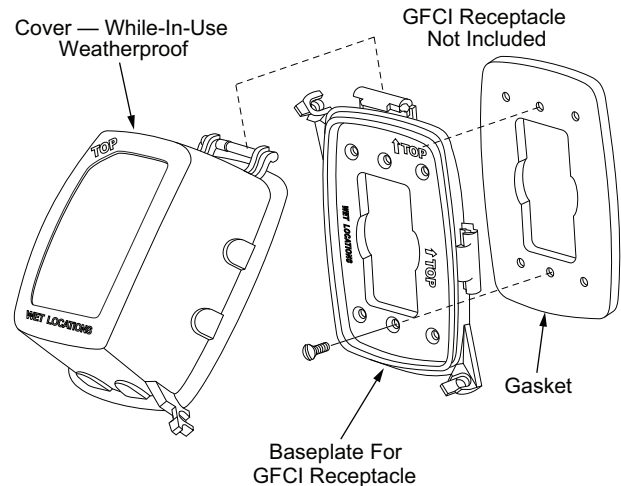

Fig. 41 — Weatherproof Cover Installation
4. Mount the weatherproof cover to the backing plate as shown in Fig. 41.